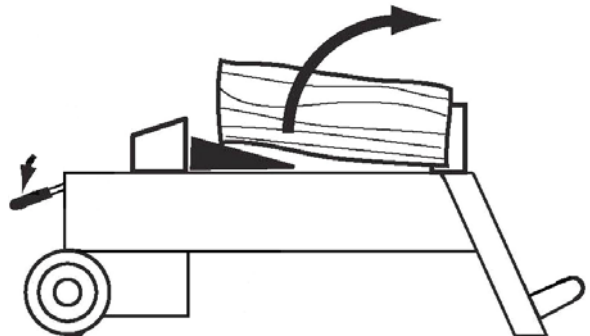

Figure 12
1. Release the Operating Handle so that the Ram fully retracts (*Figure 12*).
2. Insert a plastic or wooden wedge under the jammed log (*Figure 12*) and activate the Ram to push the wedge under the jammed log.
3. Repeat this process, using progressively larger wedges, until the jammed log is free (*Figure 12*).